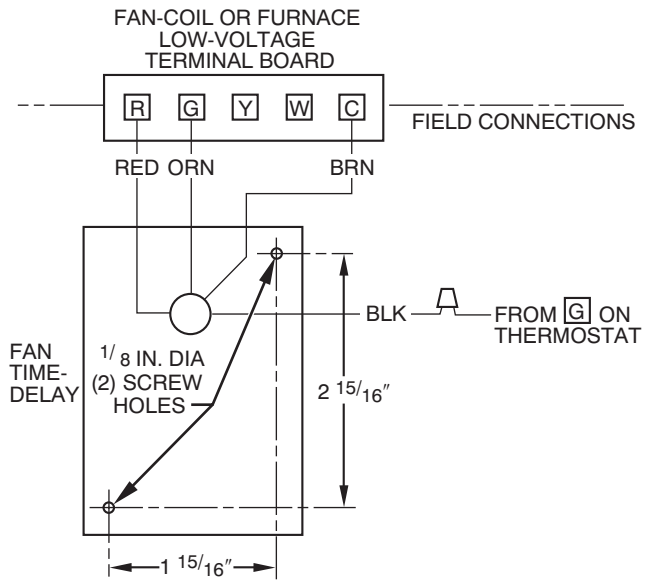

Fig. 1 - Typical Time-Delay Relay Wiring Connection
3. Refer to Fig. 1 for wiring connections.